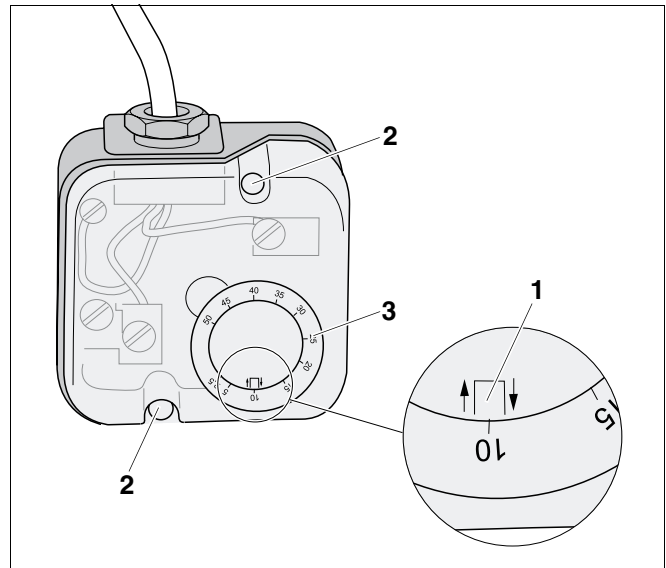

Fig. 28 Gas governor
- To carry out the conversion, remove the cover by releasing screws (Fig. 28, **Item 2**).
- Move the setting disc (Fig. 28, **Item 3**) to marking (Fig. 28, **Item 1**).